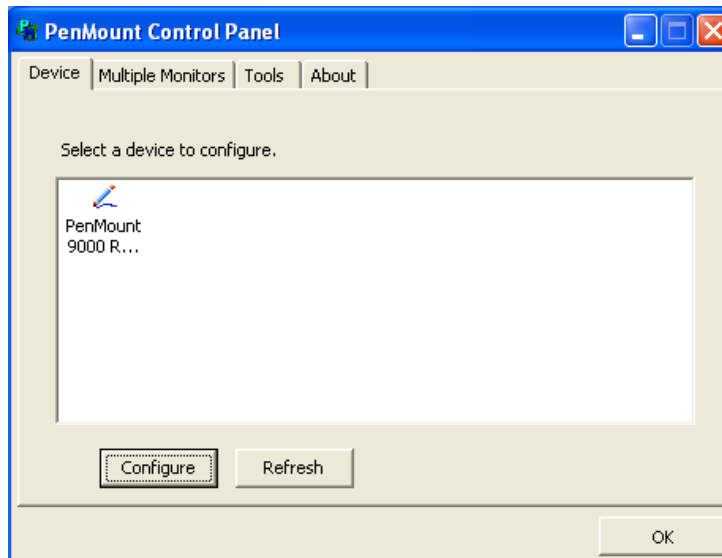

Figure 7-24: Configuration Screen
Step 5: The configuration screen in **Figure 7-24** appears.
Step 6: Double click the PenMount 9000 icon as shown in **Figure 7-24**.